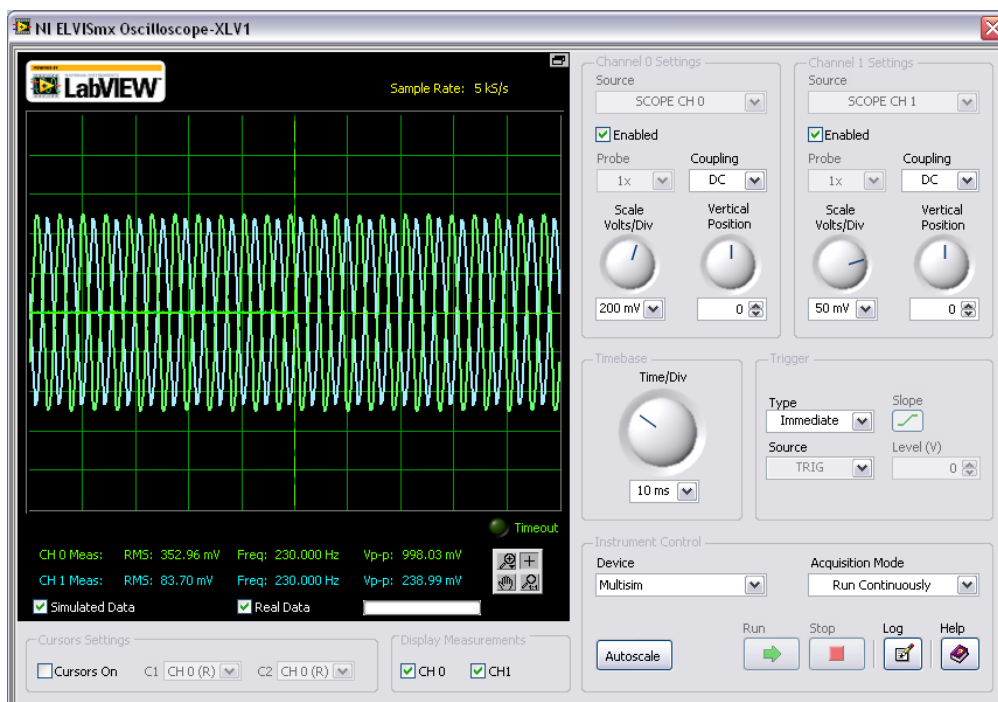

Figure E3-9. ELVISmx Oscilloscope Soft Front Panel
- j. Now, click the simulate button to simulate your circuit. The oscilloscope should process the schematic and output a waveform similar to the one shown in Figure E3-9 below. This is the simulated output of the circuit that you have designed within Multisim.